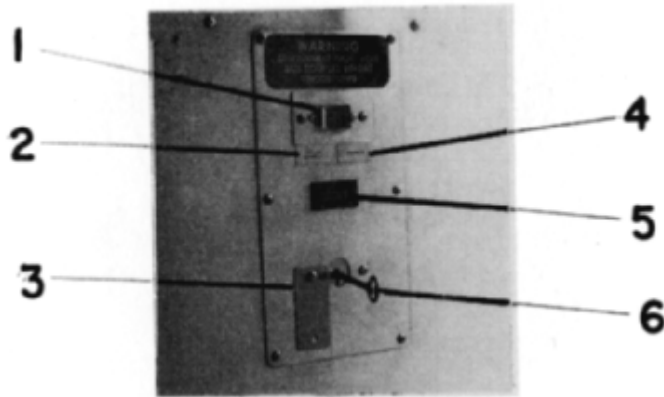

FIG. 27
2. To blow out air lines, remove cover plate from Key Switch (3) Fig. 27. Insert key and turn clockwise direction. Hold key in this position to close switch. Momentarily press Switch to Air Line Blow-Out position. (2), Fig. 27 (maximum 2 seconds to blow out air lines). Immediately press switch to Uncoupled Position (4) Fig. 27 and hold for 5 seconds. Allow key to return to OFF position and remove. Cover plate should be re-applied.
4. Mechanical coupling cycle will be made same as listed in Coupling Cycle Procedure for 'A' end, item 3.
When mechanical coupling and trainlining is completed, Coupled Indicating Light "Green" (5) Fig. 27 (Press to Test) will be illuminated in each car for respective coupler.
3. Remove cover plate from Key Switch (3) Fig. 27. Insert key and turn clockwise direction. Hold key in this position to close switch. Press switch (1) Fig. 27 to Uncouple Position (4) Fig. 27, and hold for 5 seconds **minimum**.
- b. At the same time, contact pins in electric coupler head will be retracted to disconnect trainline circuits. Coupler Indicating Light "Green" (5) Fig. 27, will go out. The parked section of train will immediately go into electro-pneumatic emergency brake application.